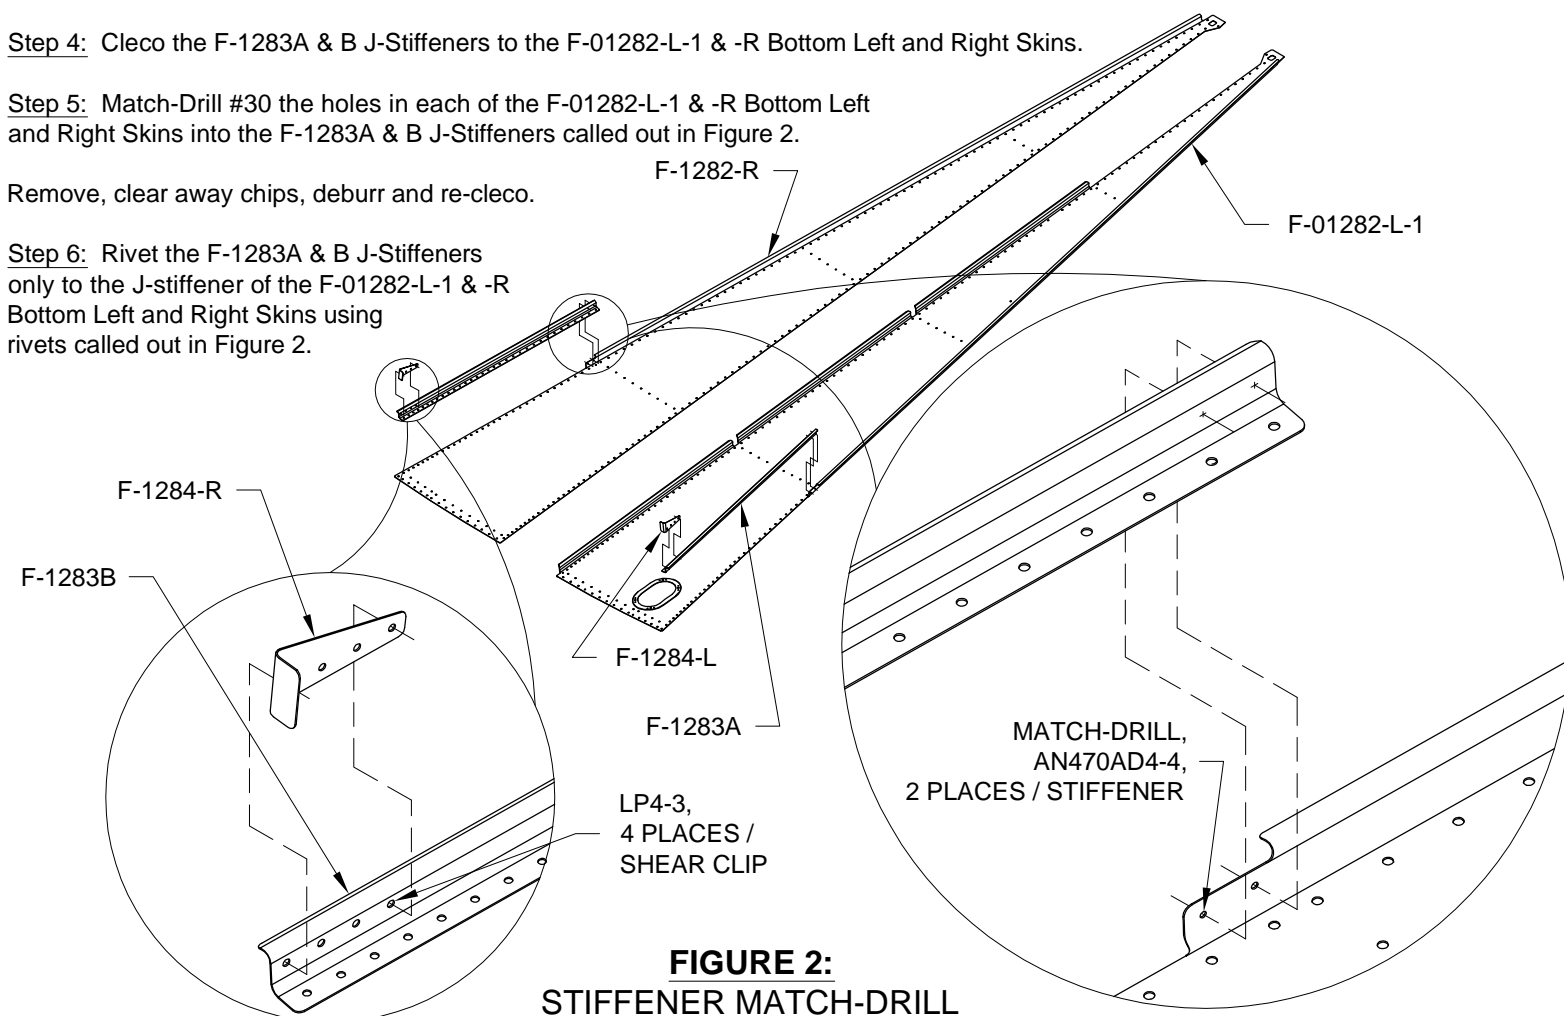

FIGURE 2:
Step 6: Rivet the F-1283A & B J-Stiffeners only to the J-stiffener of the F-01282-L-1 & -R Bottom Left and Right Skins using rivets called out in Figure 2.